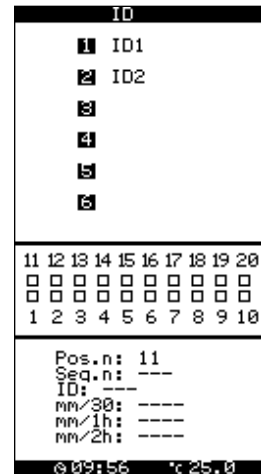

Figure 8
After selecting (1) ID, the instrument shows two options (ID1 and ID2) to record data (Figure 8).